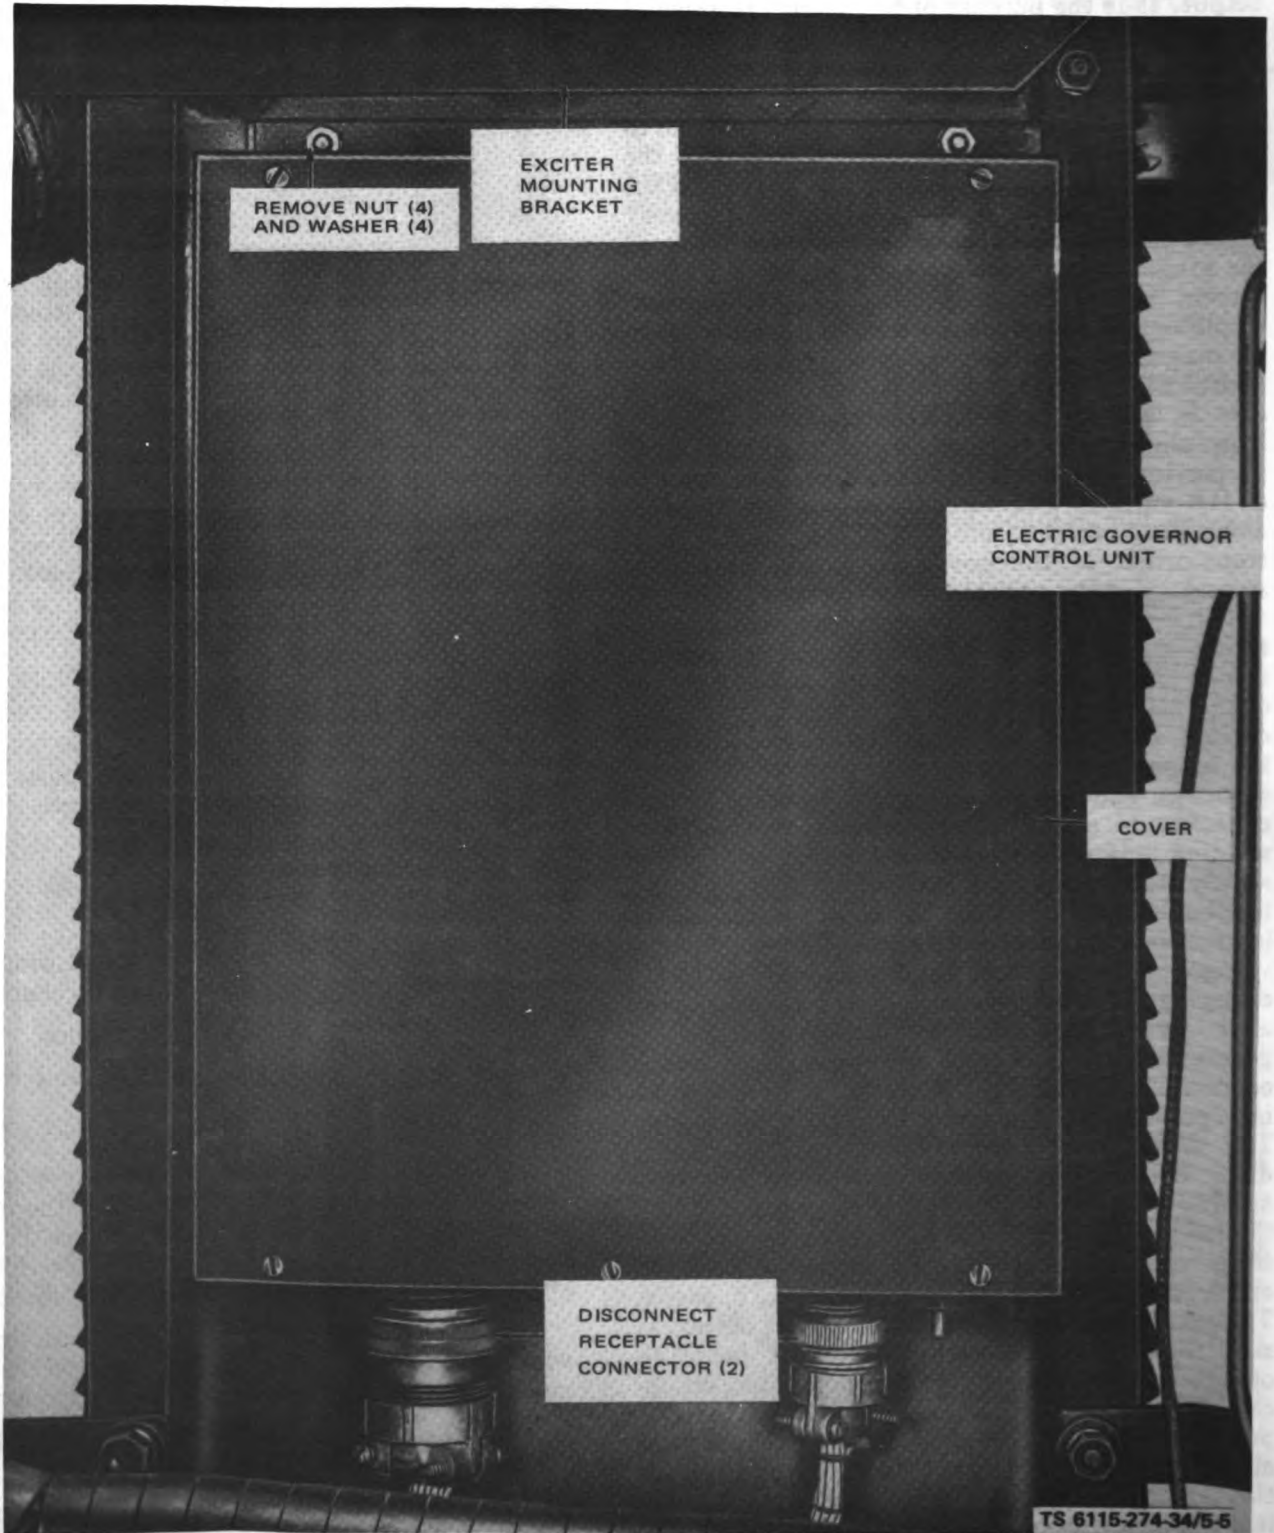

Figure 5-5. Electric Governor Control Unit, Removal and Installation
(1) Refer to figure 5-5 and the following steps for removal of the electric governor control unit.
(2) Disconnect receptacle connectors.
(3) Remove nuts and washers and remove control unit.